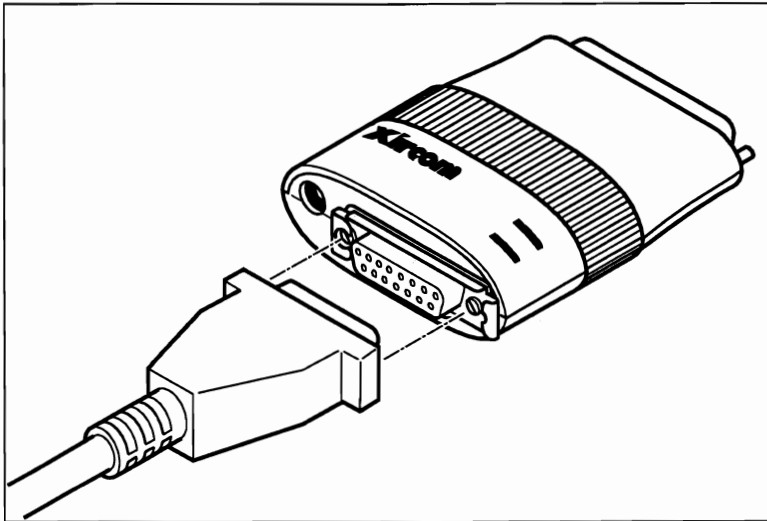

Figure 4. Attaching the AUI cable to Model PE3-10BX
1. Connect the 15-pin male end of the AUI cable to the female AUI connector on the Adapter. Use the "D" shape of the plug to help you attach the cable properly. Press the slide latch to the left to lock the connector in place. See Figure 4.
3. Connect the Adapter to the parallel port of the computer using the 25-pin D-type connector at the end of the Adapter opposite the network connector. See Figure 4.